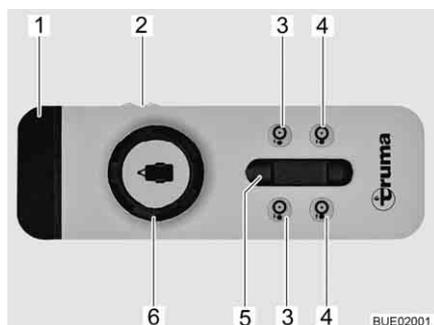

Fig. 2 Remote control
The vehicle is controlled by a control knob and a sliding regulator on the remote control (Fig. 2). The following table describes the function of the individual displays and operating controls:
- Switch the sliding switch (Fig. 2,2) on the remote control to "ON". The green LED 4 (Fig. 2,1) flashes for approx. 5 seconds and then lights up continuously. The manoeuvring system is now ready for operation.
- Swivel the drive rollers onto the wheels on both sides. To do this, press the "Swivel drive rollers onto wheels" buttons (Fig. 2,4) simultaneously for approx. 3 seconds.
- Use the control knob (Fig. 2,6) and sliding regulator (Fig. 2,5) to move the vehicle into the desired position. The vehicle is set into motion and stopped smoothly.
- Swivel the drive rollers away from the tyres on both sides. To do this, press the "Swivel drive rollers away" buttons (Fig. 2,3) for approx. 3 seconds.
- Switch the sliding switch (Fig. 2,2) on the remote control to "OFF".
If any anomalies occur during operation (e.g. uncontrolled behaviour of the manoeuvring system): switch the sliding switch (Fig. 2,2) on the remote control to "OFF".